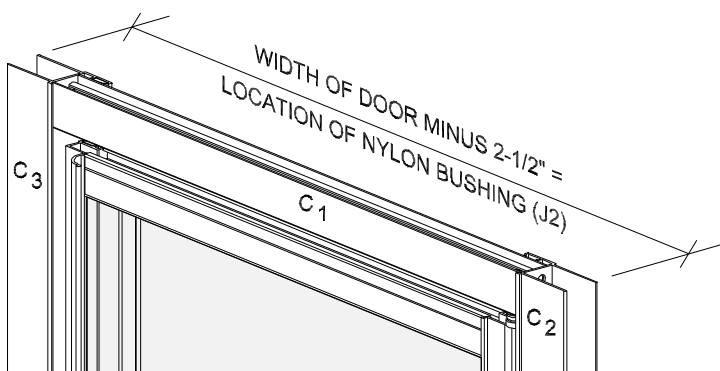
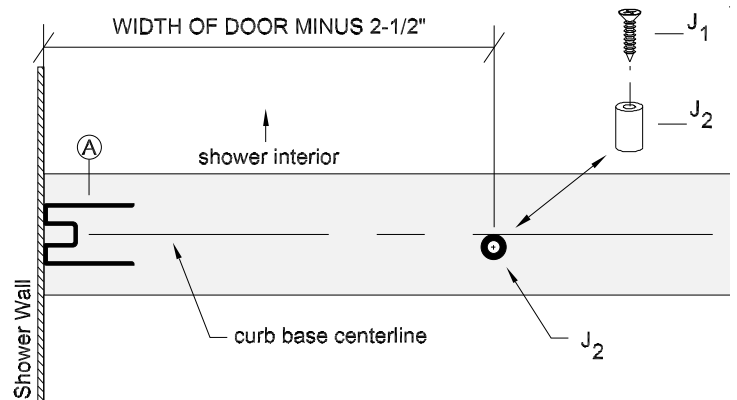

figure 2
figure 2a
Measure width of Door Assembly (C) as shown in figure 2 and mark the CHSL-KIT (J) hole location as per figure 2a.
Note: Vinyl Bushing (j2) IS NOT centered on the centerline, but is located tangent and to the outside of the centerline as shown in figure 2a.